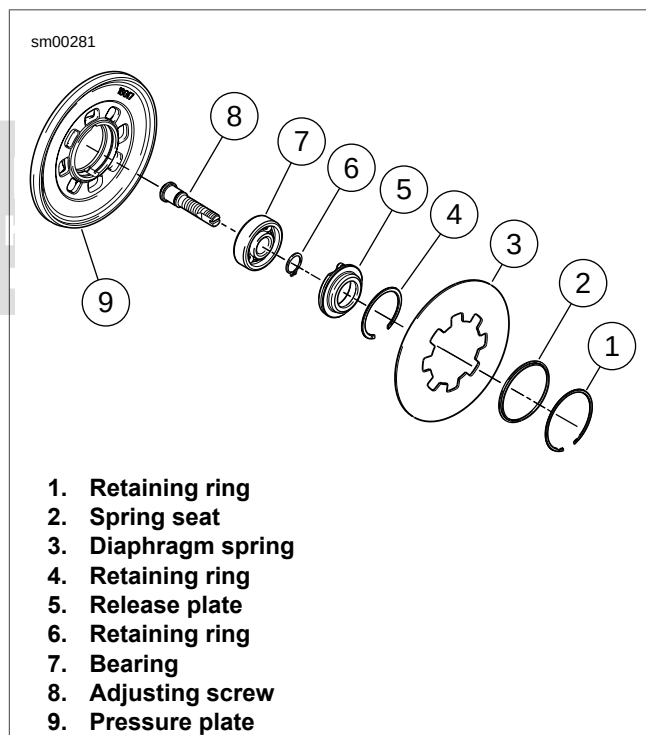

Figure 5-20. Adjusting Screw Assembly
- See Figure 5-20. Remove adjusting screw assembly.
- Remove large retaining ring (1).
- Remove adjusting screw assembly from pressure plate (9).
- Remove and discard small retaining ring (6).
- Separate the adjusting screw (8) from the bearing (7) and release plate (5).
- Remove bearing (7) from release plate (5).